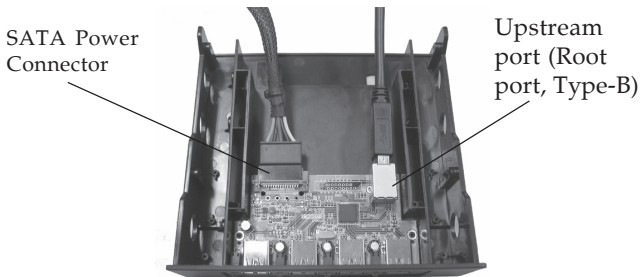

Figure 3
5. Connect the **Type-B connector** of the included **USB 3.0 cable** into the **Upstream port (Root port, Type-B)** of the *USB 3.0 4-Port Bay Hub*. See **Figure 3**.
6. Plug in either the **SATA Power Connector** from the system power supply to the *USB 3.0 4-Port Bay Hub*. See **Figure 3**.